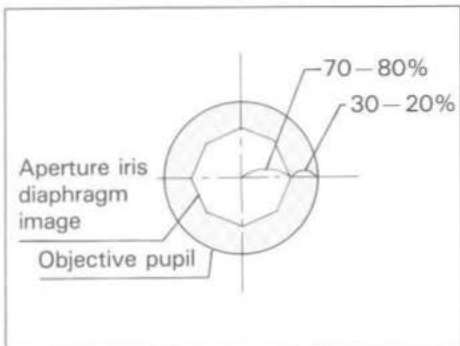

Fig. 11
- As microscopic specimens are usually low in contrast, reducing the diaphragm opening to 70–80% of the objective N.A. will generally provide an image of acceptable quality. After completing focus adjustment, remove one of the eyepieces from the eyepiece sleeve and look into the empty eyepiece tube. As you stop down the aperture iris diaphragm, the iris diaphragm can be seen in the objective exit pupil. (Fig. 11)
- (8) When low-magnification power (2x–4x) objectives are in use, swing out the top lens from the light path. The field iris diaphragm image will not be formed. If the aperture iris diaphragm opening is reduced, the field of view may become obscured. If this is the case, rotate the aperture iris diaphragm adjustment ring clockwise to fully open the aperture iris diaphragm. The effect of reducing the aperture iris diaphragm can be attained by stopping down the field iris diaphragm of the microscope stand.